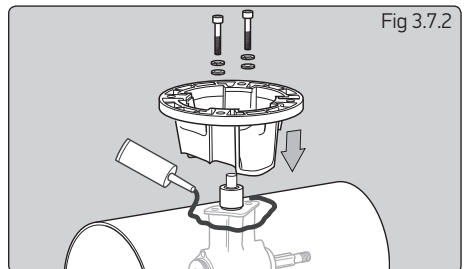

Fig 3.7.2
NOTE: Poor exterior tunnel surface could cause leakage and noise. Apply sealant to this area as required (Fig 3.7.2).
- Apply zinc chromate paste or marine grease to location bore and assemble saddle onto hub (SikaFlex® or similar maybe used to seal saddle in place). Apply Blue Loctite® 243 to bolts and hand tighten along with supplied washers (Fig 3.7.2).